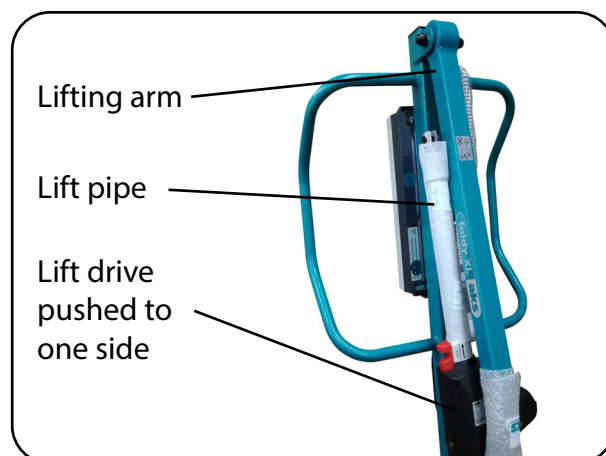

Fig. 13.2.02 – Lift drive and lifting arm
3. First swivel the lift drive and then swivel the lifting arm to the stand mast. You have to push the lift drive to one side to make space for the lifting arm. Otherwise, there is a risk of damaging the drive pipe (Fig. 13.2.02).